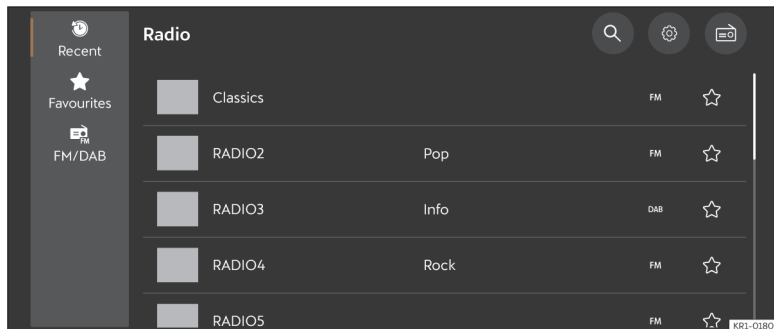

Fig. 158 Schematic representation: Radio view.
- Press **MENU** > >>> **Fig. 158**.